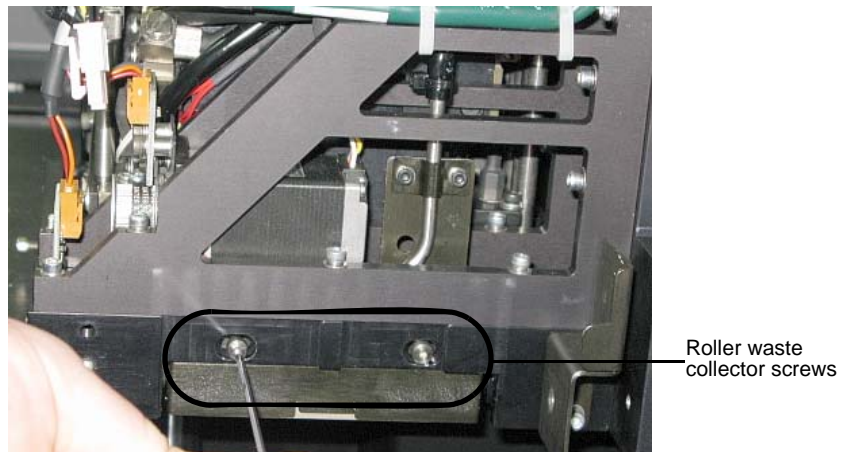

Figure 6-37: Removing the roller waste collector covering
1. Return the roller waste collector to the print block and screw on the covering (see figure 6-37 on page 31).